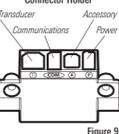

Figure 9
1. Insert both the power and the transducer cable plugs into the connector holder. The cable plugs are labeled, and there are corresponding labels on the connector holder (Figure 9). The slots for the plugs are keyed to prevent reversed installation, and insertion should be easy - do not force plugs.